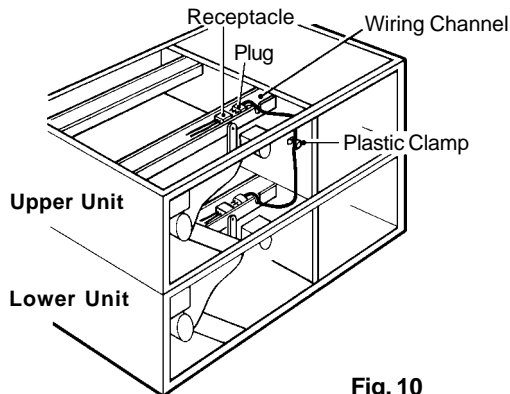

Fig. 10
- 15) Connect the leads (with three-way plug) located in the lower unit wiring channel to the upper or middle unit receptacle, unplugged in the above step 10). Secure the leads using the plastic clamp provided. Place the plastic cover in position. See Fig. 10.